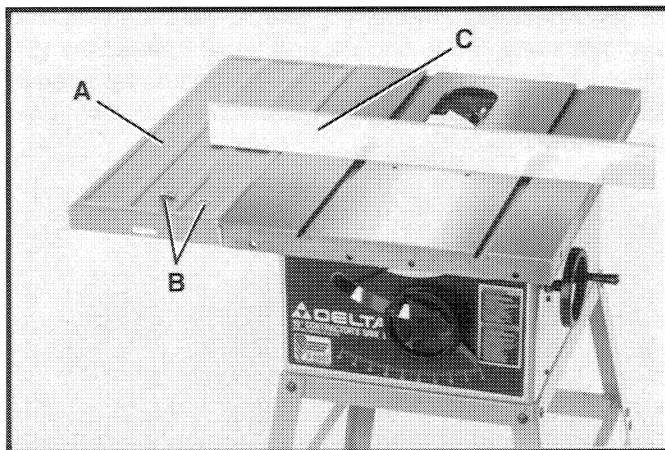

Fig. 20
1. Assemble left extension wing (A) Fig. 20, to the table using the three 3/4" long hex head cap screws and 7/16" I.D. flat washers, one of which is shown at (B). **IMPORTANT: It is very important that the extension wing (A) is centered between the front and rear edges of the saw table and that the top surface of the extension wing (A) is level with the saw table.** Figure 20 illustrates using the fence (C) as a straight edge.